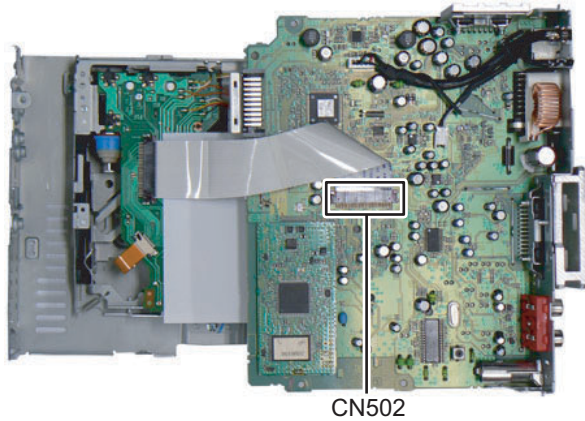

Fig.6
- (4) Disconnect the board to board connector CN502 connecting the Main board and the CD mechanism. (See Fig.6)